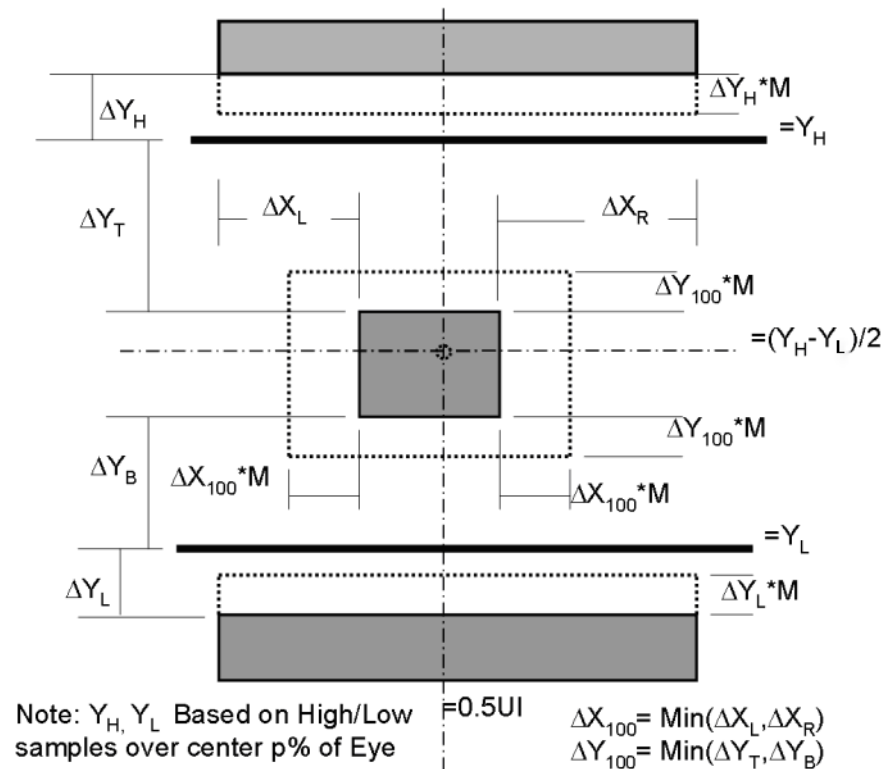

Figure 7-6. Tektronix Rectangle Mask Margin Illustration
The leftmost and rightmost vertices of the center mask are moved outward by the specified percentage (M) of this available margin or inwards if the margin is negative. In Figure 7-6, this is represented as $\Delta X_{100} = \text{Min}(\Delta X_L, \Delta X_R)$.